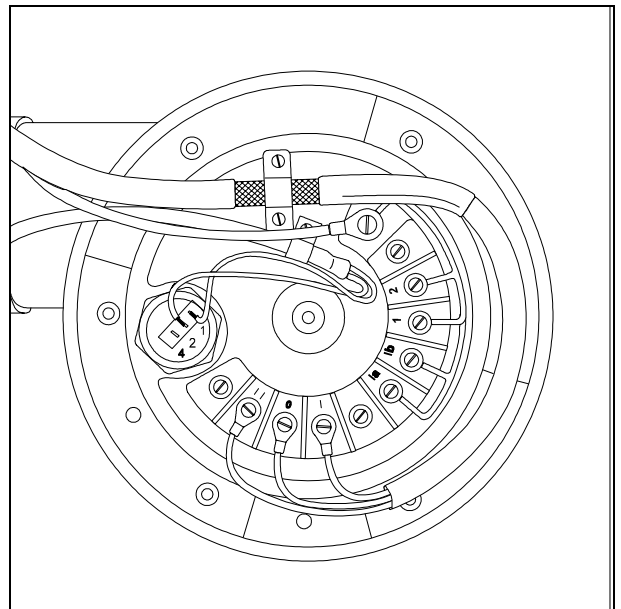

Fig. 2
### 3-phase stator (Fig.2)
- Secure the stator to the x-ray tube assembly using a compression clip and clamp. Secure the double-shielded rotating anode cable to the x-ray tube assembly using the clamp but not the compression clip (Fig.2) (braid to ground).